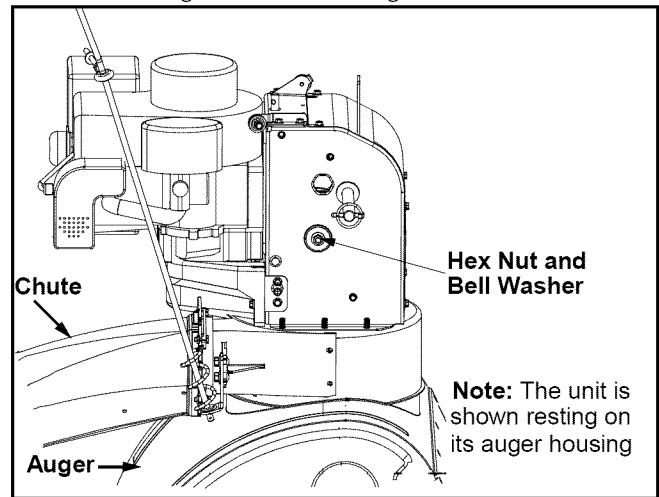

Figure 31
- Using a wrench to hold the shaft, loosen, but do not completely remove, the hex nut and bell washer on left end of gear shaft. See Figure 31.